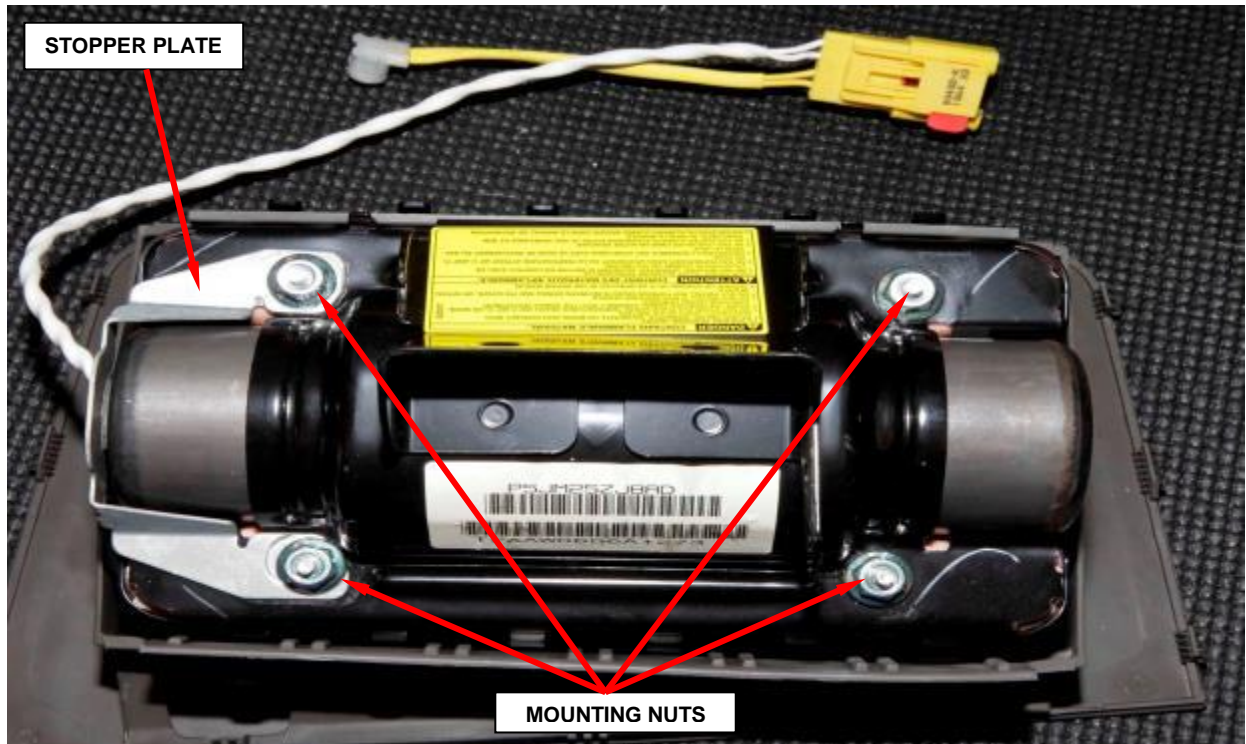

Figure 96 – Mounting Nuts and Stopper Plate
e. Remove and discard the four mounting nuts and stopper plate from the passenger airbag module (Figure 96).
- h. Install the stopper plate to the airbag module (Figure 96).
- i. Install the four new mounting nuts to the airbag module and tighten to 53 in. lbs. (6 N·m) (Figure 96).